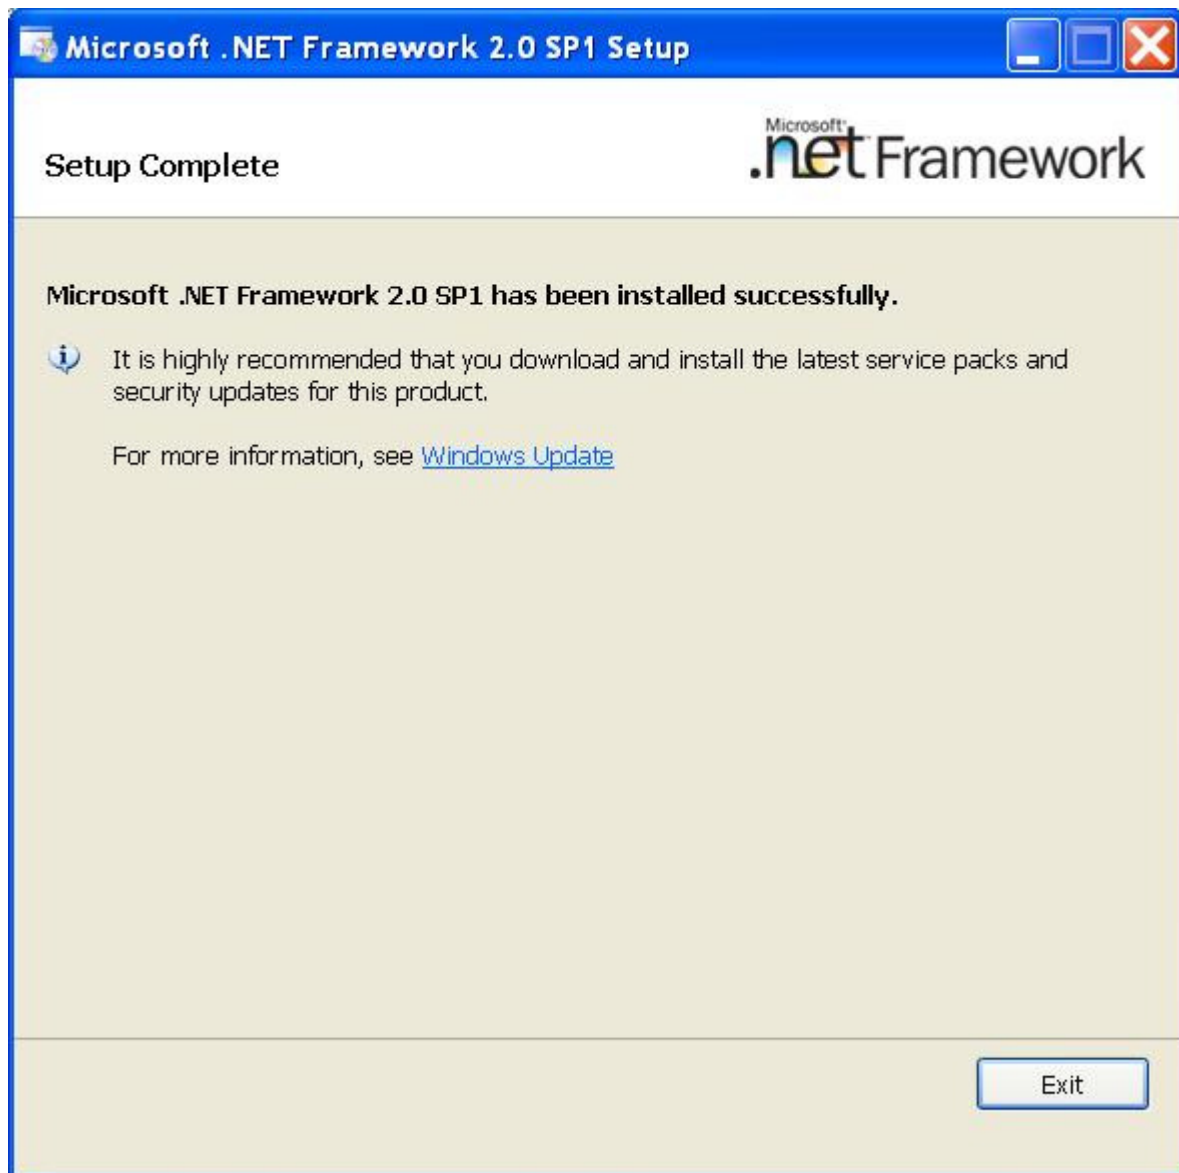

Figure 13
4. Click "Exit" to finish the installation, as figure 13.